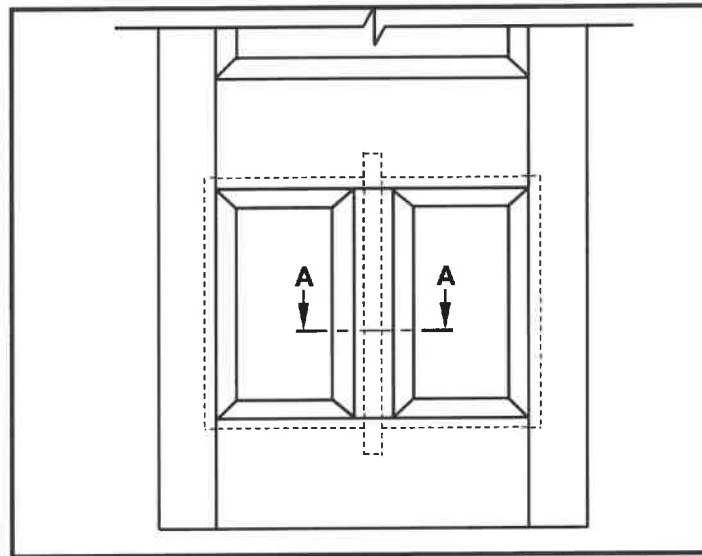

FIGURE 6.4
- 6.4 FIGURE 6.4 shows the bottom half of the front view of a three-panel door with a lock rail and raised and fielded panels. Section line **A-A** is also indicated on the drawing.